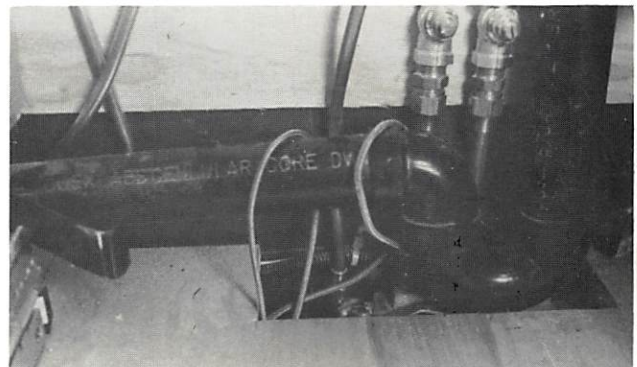

Figure 5-7. Lavatory Sink Plumbing
3. Open the low-point drain valves located beneath the lavatory sink, figure 5-7, and the lavatory.